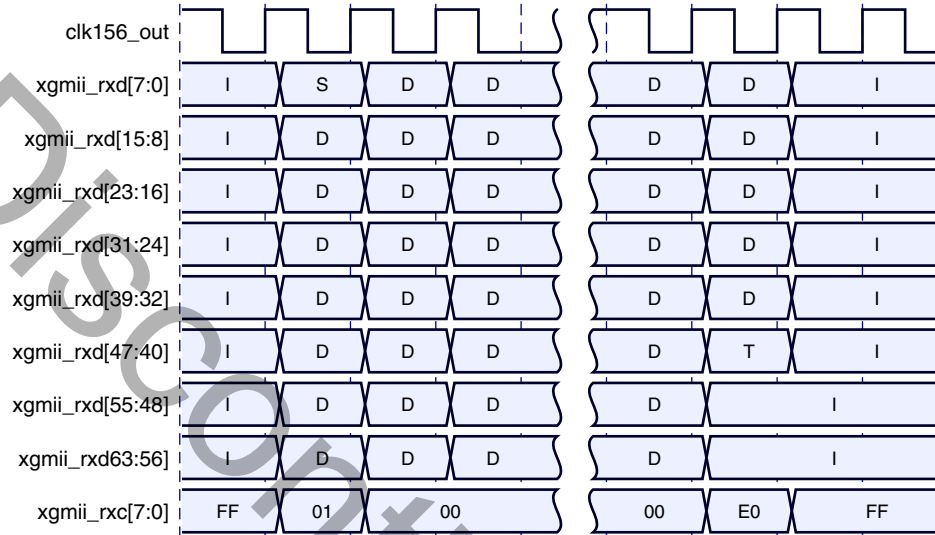

Figure 3-16: Frame Reception Across the Internal 64-bit Client Interface
The timing of a normal inbound frame transfer is shown in Figure 3-16. As in the transmit case, the frame is delimited by a Start character (S) and by a Terminate character (T). The Start character in this implementation can occur in either lane 0 or in lane 4. The Terminate character, T, can occur in any lane.